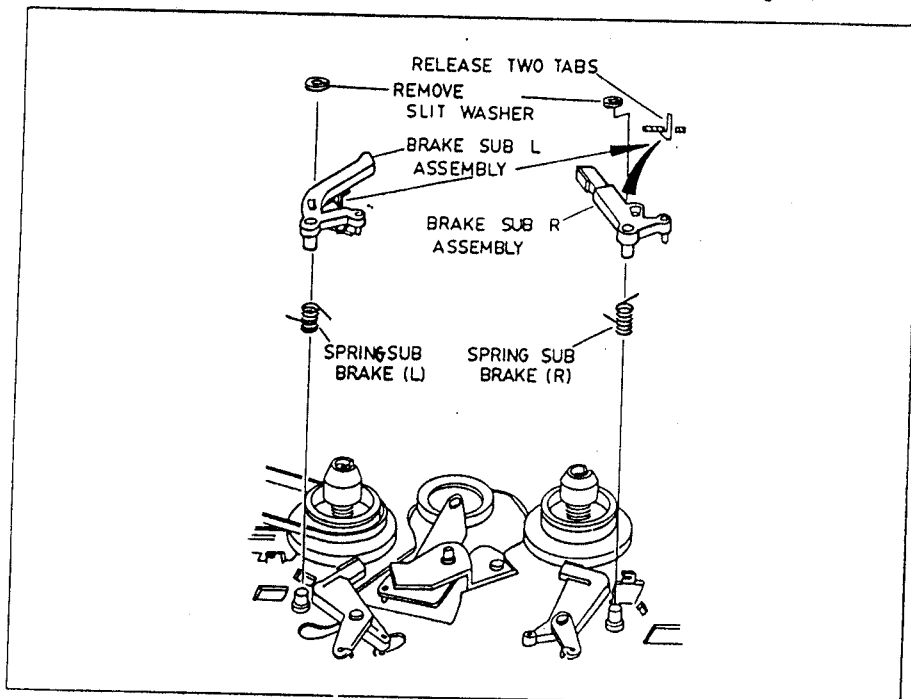

Fig. 28 Brake Sub (R) Assembly and Brake Sub (L) Assembly Removal
2-2-10. Brake Sub (R) Assembly and Brake Sub (L) Assembly Removal. (Fig. 28)
3. Remove the brake sub (L) assembly. (See Fig. 28)